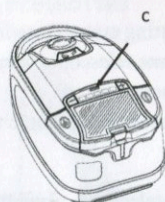

Fig. 4.2
B. Check Bag Indicator (Fig. 4.2) When the indicator light comes on, (C), open the canister and check the filter bag. See page 10 for details and instructions on how to replace a filter bag.